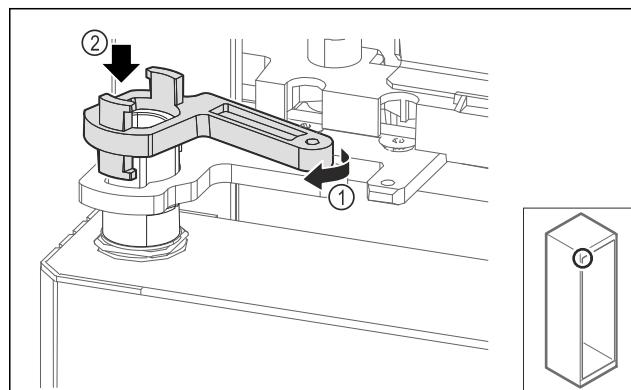

Fig. 62
- ▶ Turn the swap bearing block lock slightly Fig. 62 (1) and place it on the sleeve Fig. 62 (2).